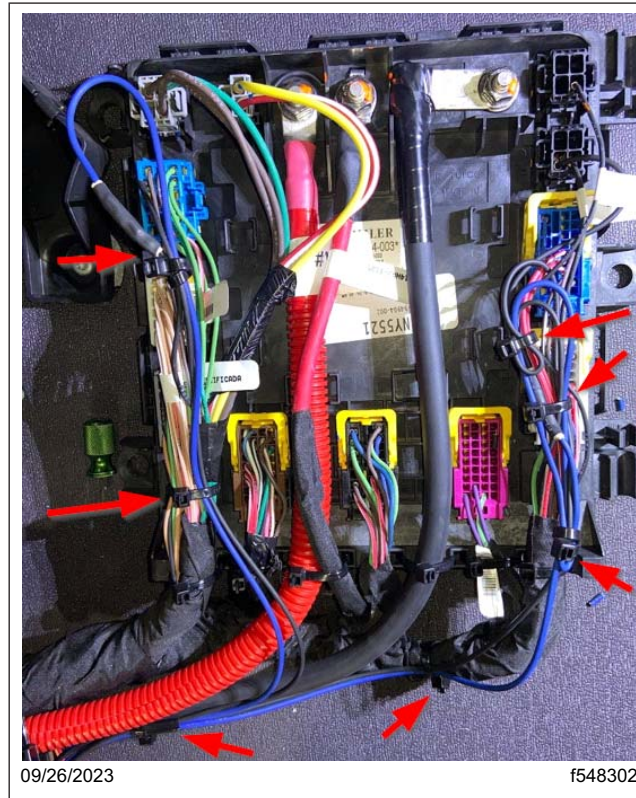

Fig. 34, Securing the Wires Routed to the SSAM
11. Follow Daimler routing and clipping standards to secure the wires routed to the SSAM, as shown in Fig. 34. Install the SSAM on its bracket.